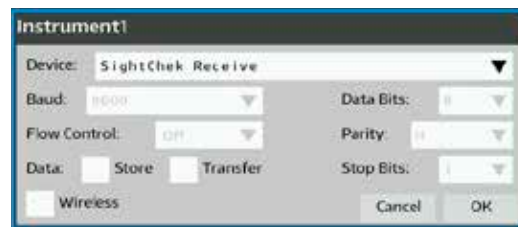

Figure IS-28 Instrument1 Setting for Receiving Data from the previous SightChek
5. Locate the Instrument 1 section of the Communication screen and set the parameters as per Figure IS-28.